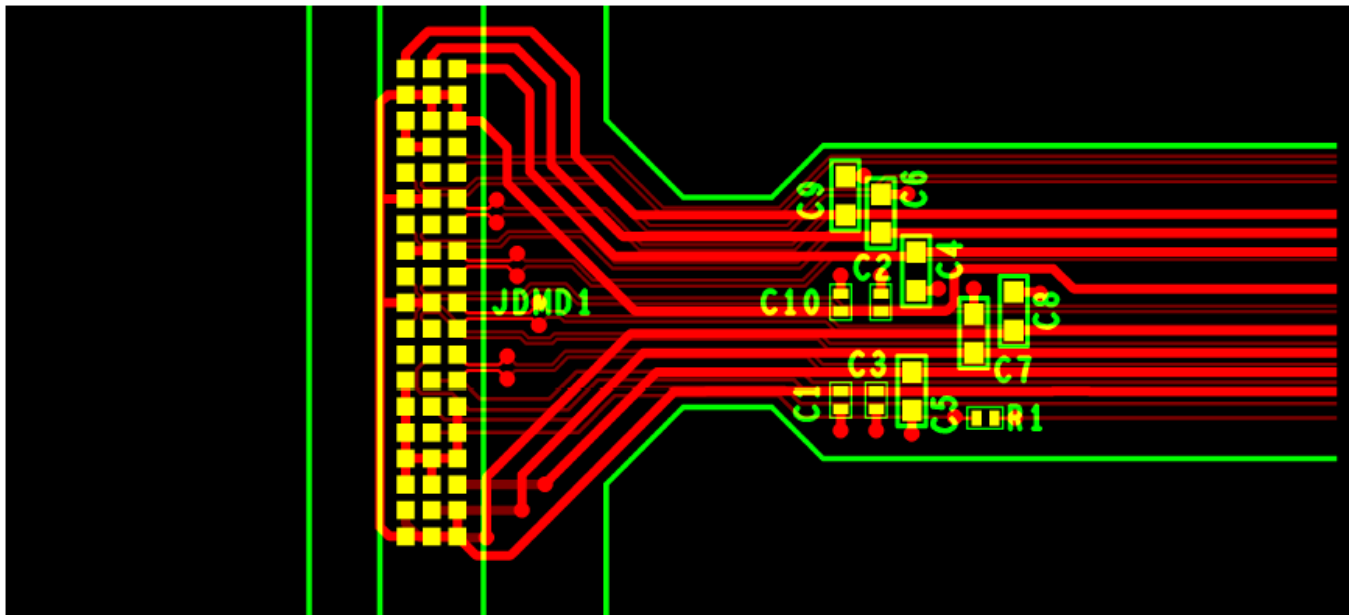

図 16. Power Supply Connections
- Minimize vias, layer changes, and turns for the HS bus signals. Refer Figure 16.
- Place a minimum of two 220-nF decoupling capacitor close to VBIAS. Capacitor C3 and C10 in Figure 16.
- Place a minimum of two 220-nF decoupling capacitor close to VRST. Capacitor C1 and C9 in Figure 16.
- Place a minimum of two 220-nF decoupling capacitor close to VOFS. Capacitor C2 and C8 in Figure 16.
- Place a minimum of four 220-nF decoupling capacitor close to VDDI and VDD. Capacitor C4, C5, C6 and C7 in Figure 16.